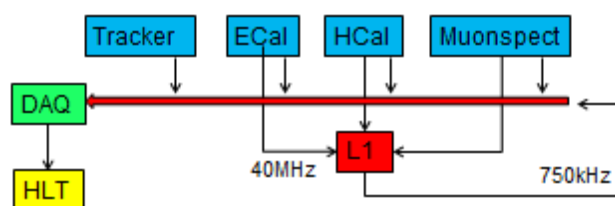
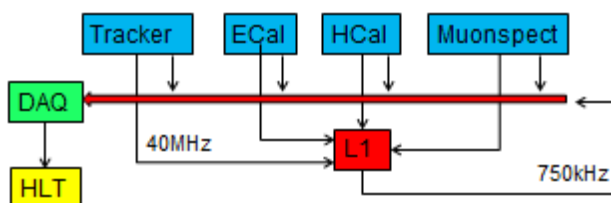

Fig. 3: Actual Tracker working scheme
Fig. 4: Future Tracker working scheme
- Using Tracker information in the level 1 trigger - with higher luminosity the event data rate will increase. Although the level-1 trigger transfer data will be increase to 750Hz, to not increase theresholds (which would reduce physics performance), there is the need to include tracker information in the level-1 trigger decision (Fig.3, Fig.4).